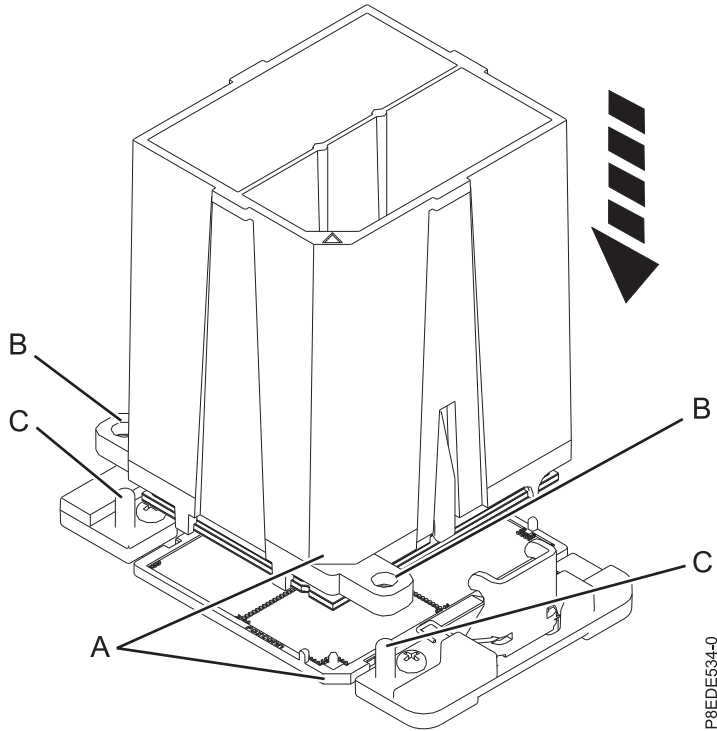

Figure 191. Installing the system processor module
- b. Lower the tool and system processor module onto the socket. Align the beveled corner (A) of the tool with the beveled corner on the socket. Ensure that the two guide pins (C) are inserted into the alignment holes (B) on each side of the tool. Use care to lower the tool evenly without tilting the tool. See Figure 191 on page 167.